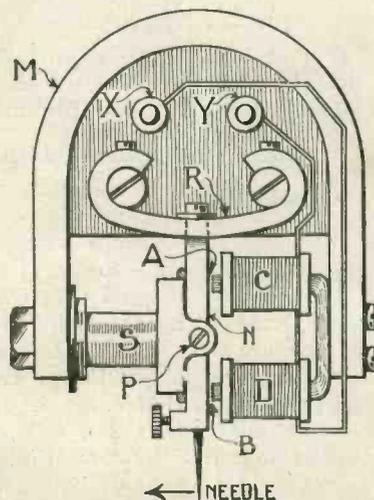

Fig. 1.—Diagrammatic sketch of typical pick-up
Let us consider for a moment how a pick-up functions. A permanent magnet M (see Fig. 1) has a steel support S, which carries pivots P. An armature N is mounted in the pivots, which has one end secured to a piece of rubber (R) whilst its opposite end is provided with a hole and fixing screw to take the needle.